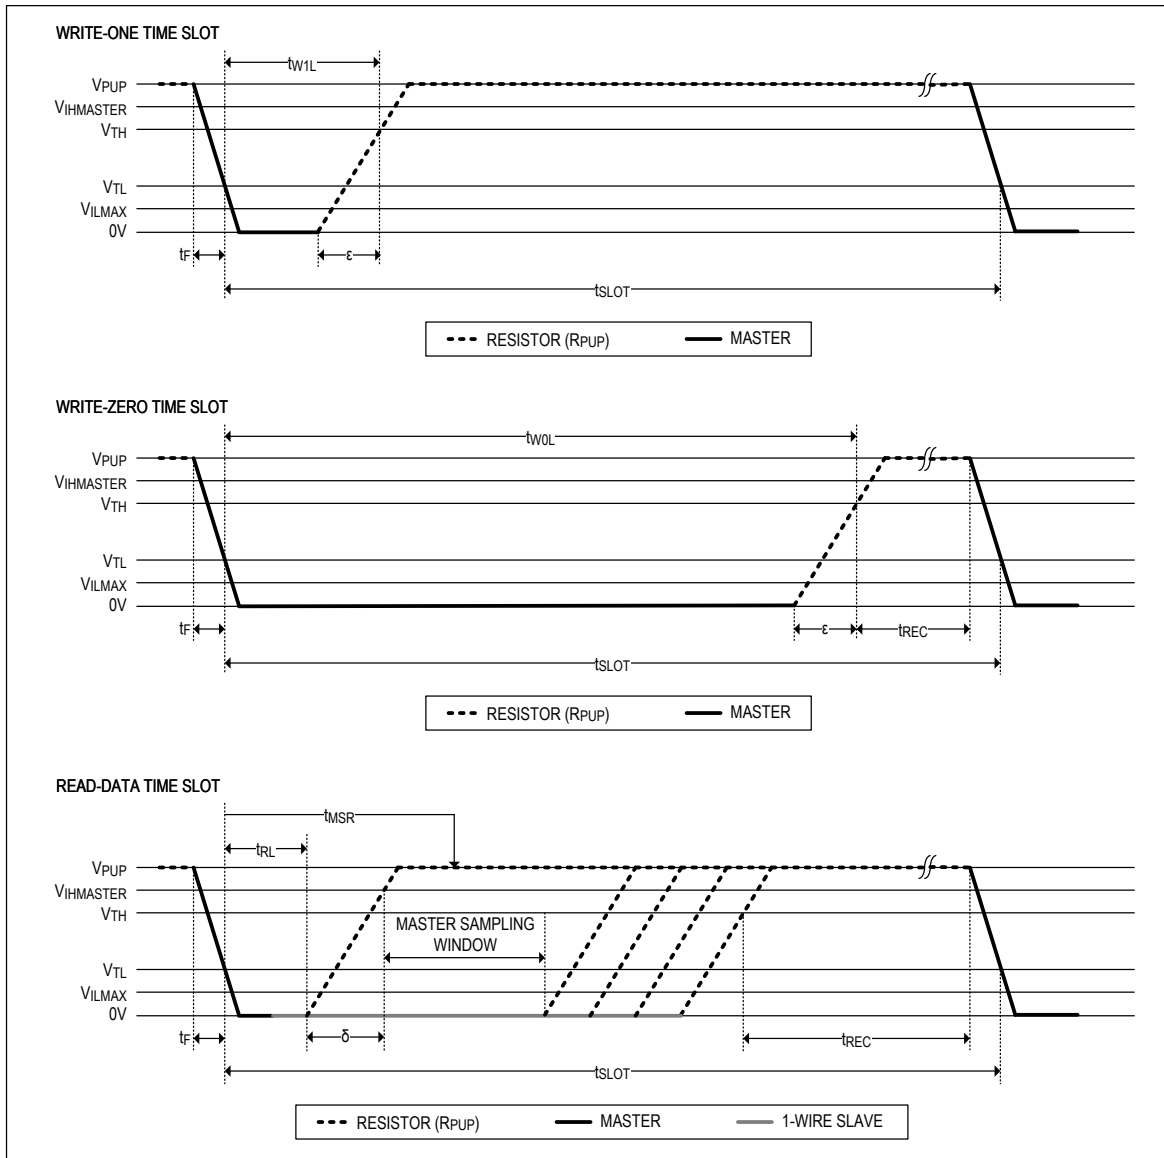

Figure 5. 1-Wire Read/Write Timing Diagrams
- Note 17:**  $\epsilon$  in Figure 5 represents the time required for the pullup circuitry to pull the voltage on IO up from  $V_{IL}$  to  $V_{TH}$ .
- Note 18:**  $\delta$  in Figure 5 represents the time required for the pullup circuitry to pull the voltage on IO up from  $V_{IL}$  to the input-high threshold of the bus master.